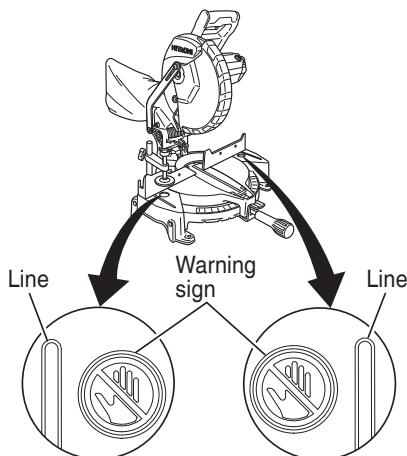

Fig. 12
- \* Never place your limbs inside of the line next to warning sign while the tool is being operated. This may cause hazardous conditions (see Fig. 12).